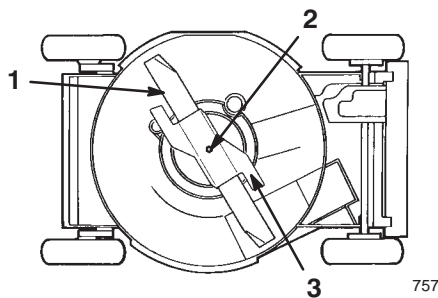

Figure 20
4. Tip the lawn mower onto its **right** side (Fig. 20).
2. Remove the blade bolt, the lock washer, the accelerator, and the blade (Fig. 20).